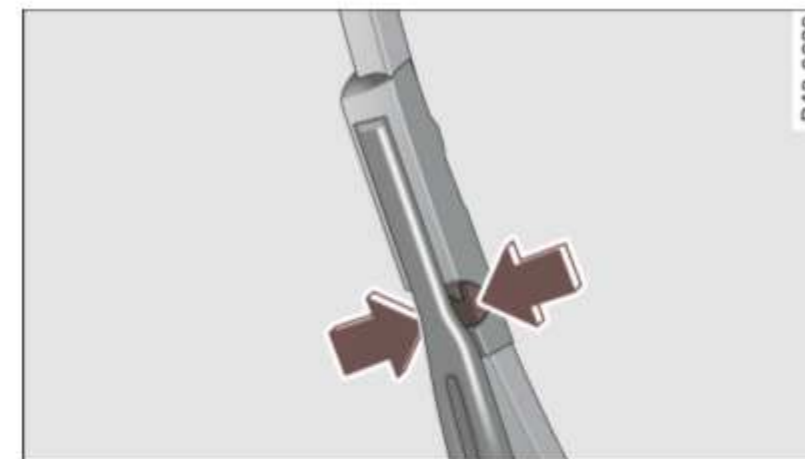

Fig. 49 Unlatching wiper blades
- On the upper end of the wiper arm at the corrugation, squeeze the plastic retainer together on both sides in the direction of the arrow ⇒ *page 57, fig. 49*.